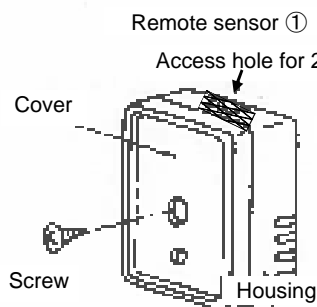

Figure 2
5. Installing the Remote Sensor ①
- Unscrew the screw and detach the cover from the housing. (see Figure 2)
Cut the section indicated in Figure 2 (with a knife, etc.) being careful not to cut the cable.